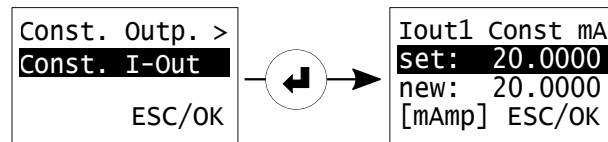

Figure 6.8: Setting a constant current output.
5. **Changing the value of the constant output**: in case you chose the **Const. Outp.** mode, you can manually change the value of the constant current output by moving the cursor to the second display line **Const. I-Out**, clicking <ENTER>, and entering the desired value followed by clicking **OK** (see Figure 6.8). If you are not using the current output, it can be set to a constant value of 0.